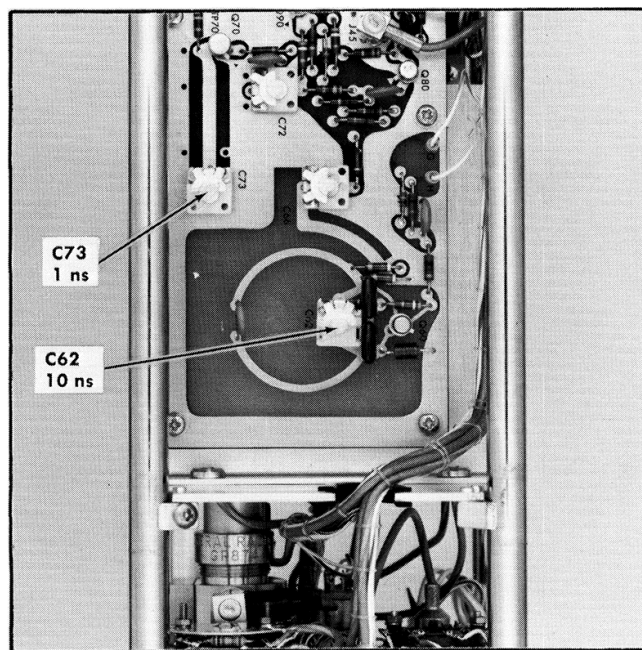

Fig. 6-18. Location of timing adjustments for steps 9 and 10.
f. Adjust C62 on the calibration board (Fig. 6-18 for location) to superimpose the Type 284 signal display (10 ns period or 100 MHz) with the Type 184 signal at the center of the graticule. Fig. 6-17B shows a lower frequency and a slight decrease in capacity of C62 is necessary. Fig. 6-17C shows a higher frequency.
- g. Adjust C73 on the Calibrator board (location shown in Fig. 6-18) so that the signal from the Type 284 is superimposed on the 1000 MHz signal display at the center of the graticule. To verify that you have the true 1000 MHz signal from the Type 284, change the RF Center Freq slightly to see if the combined signal display shifts together (tracks).